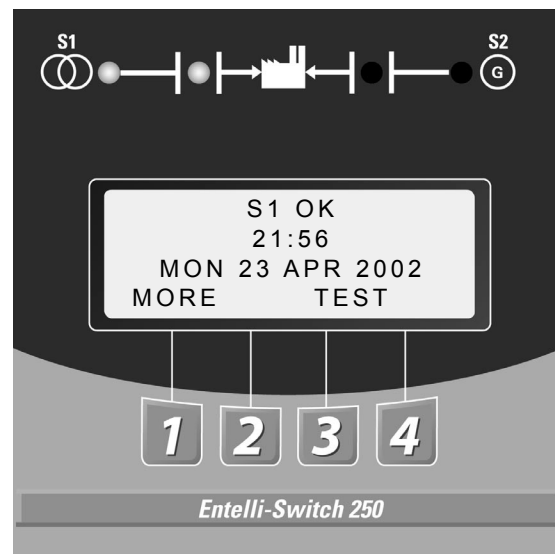

Figure 8
- B. LCD and Keypad located on the exterior of the door (see figure 8)